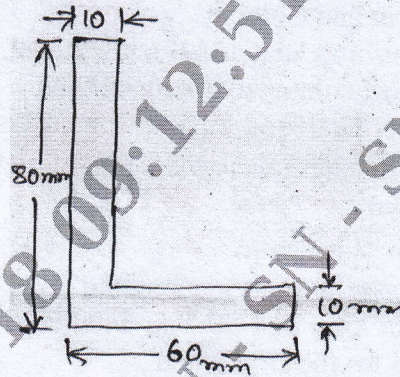

Fig. Q2 (b)
b. Determine the M.I of the figure shown in Fig. Q2 (b) about its centroidal axis. (16 Marks)